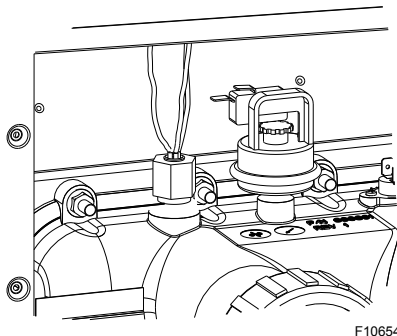

Figure 29. Thermostat Temperature Sensor Location
3. Remove the thermostat temperature sensor by loosening the compression fitting nut. Re-route the sensor to left side of the heater. See **Figure 29**.